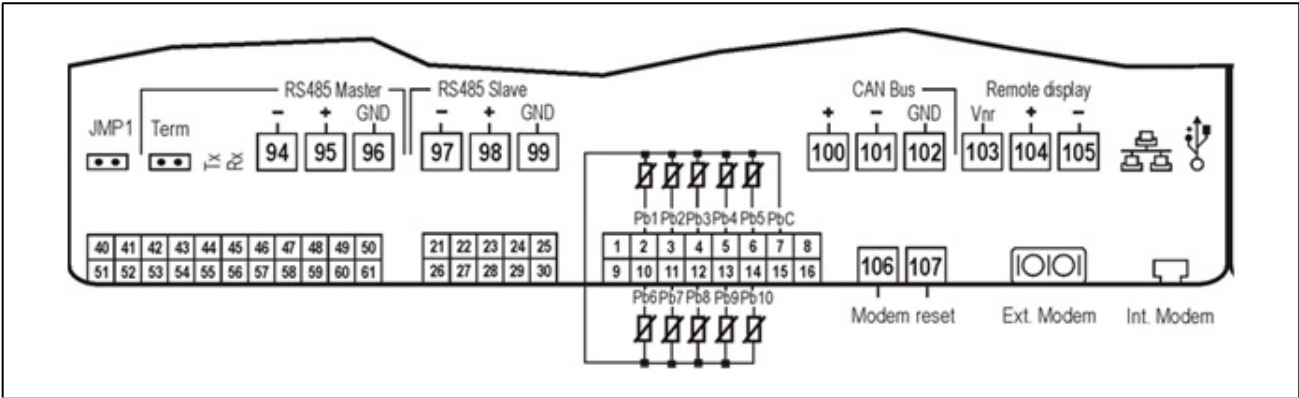

Figure 4-2 - Temperature Probe Wiring
- In order to enter the configuration, press keys T1, T3 and T8 at main menu for a few seconds (See **Figure 4-2**).